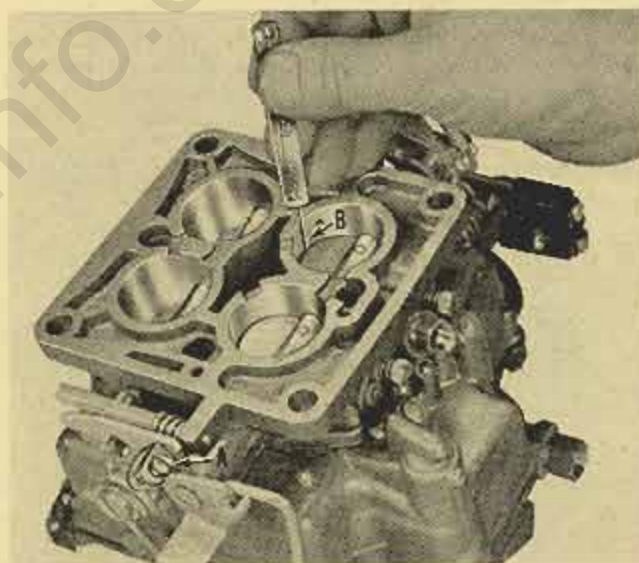

Fig. 14
B. With choke valve tightly closed, adjust fast idle adjusting screw, "A," Fig. 14, until a .020" wire gauge Tool No. T109-29 can be inserted between the rear side of the primary throttle valves and the carburetor body bore, "B," Fig. 14. Be sure fast idle adjusting screw is on high step of cam while making this adjustment.